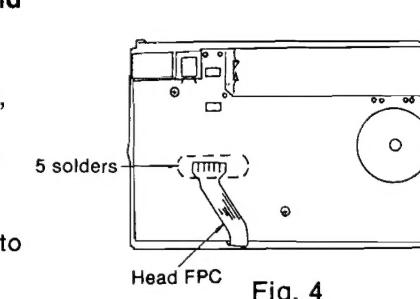

Fig. 4
2. Remove 5 solders (Head FPC). (See Fig. 4.)